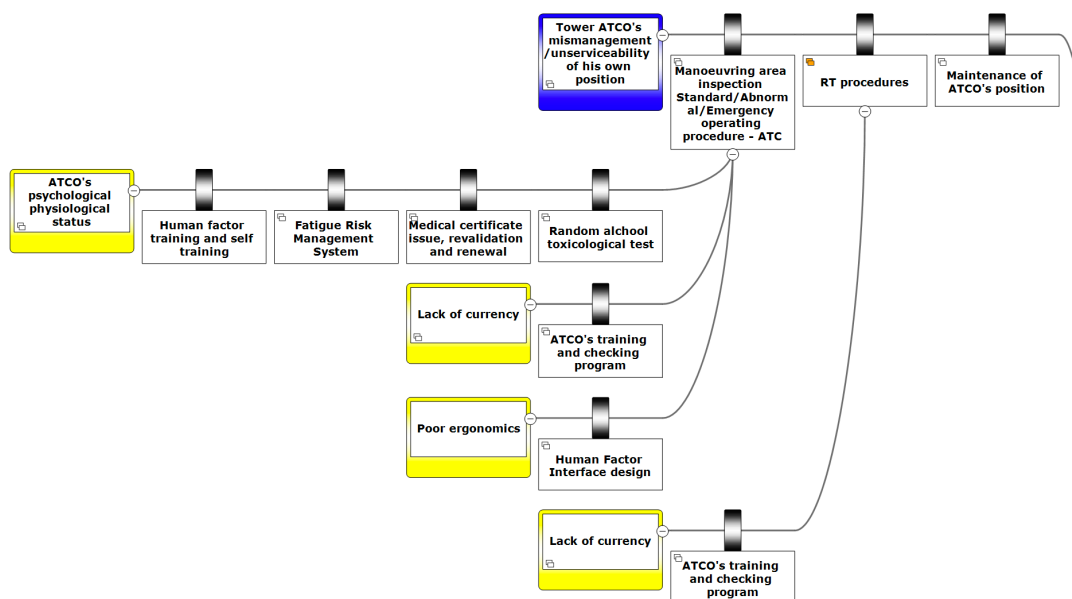

Figure 5: Degradation factors and associated barriers for Threat 1
- Last consideration is on degradation factor affecting barriers. We consider here only the main ones related to barrier “*Manoeuvring area inspection Standard/Abnormal/Emergency operating procedure – ATC*” and barrier “*RT Manual*” (Figure 5). In synthesis the failure of a procedure or of a communication might be due to “*ATCO's Psychological Physiological status*”, “*Lack of currency*” and/or “*Poor ergonomics*”, negative effect of those can be counteracted by the usage of the illustrated degradation factors barriers.